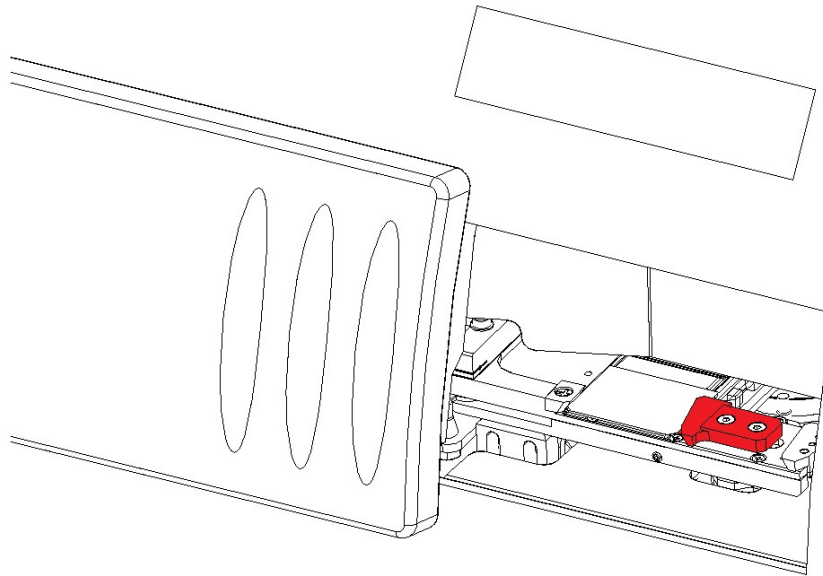

Figure 7 – Location of the slide adapter
1. Open slide feeder door, and locate the adapter (marked with red on **Figure 7**) at the front edge of the specimen holder